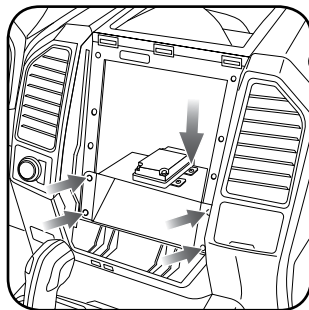

Fig. 9.0
11. If the camera module is present, mount it to the supplied mounting bracket using (3) M6 bolts and washers included with the FTR1 kit. Connect it. Insert in dash (area where OEM radio was) and secure it with (4) 7mm screws. (Fig. 9.0)